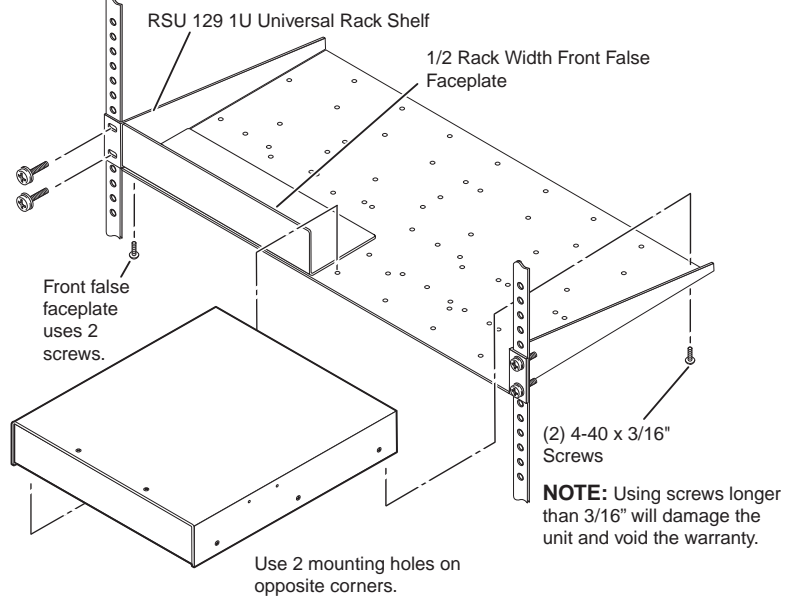

Figure 2-1 — Rack-mounting the switcher
The following Underwriters Laboratories (UL) guidelines pertain to the installation of the switcher into a rack (figure 2-1).
For optional rack mounting, mount the SW VGArS / Ars Series on an optional RSU 129 1U Universal Rack Shelf (part #60-190-01) or RSB 129 1U Basic Rack Shelf (part #60-604-01) (figure 2-1). The switcher mounts either to the right or to the left at the front of the rack.
2. Mount the SW VGArS / Ars Switcher on the rack shelf, using two 4-40 x 3/16-inch screws in opposite (diagonal) corners to secure the switcher to the shelf (figure 2-1).